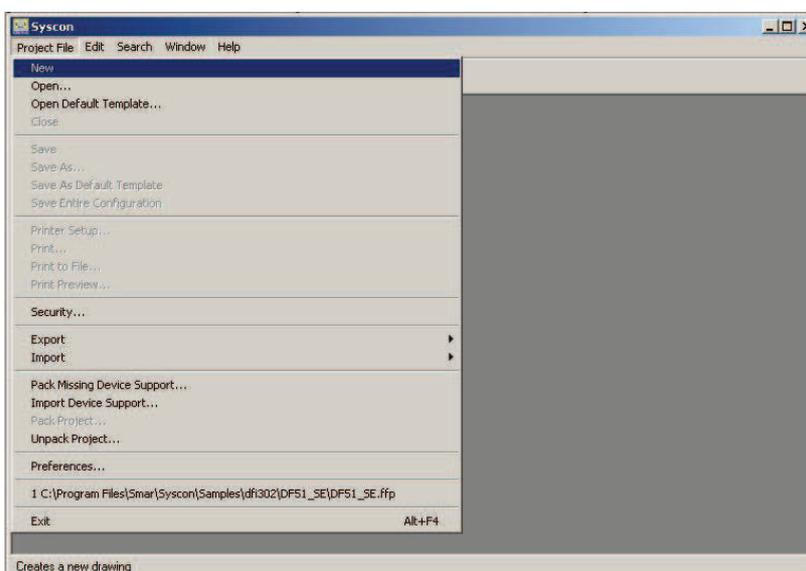

Figure 3.14 – Main Screen – Software Syscon
2. In the main window, choose *Project File* → *New*. See the Figure 3.14 below.